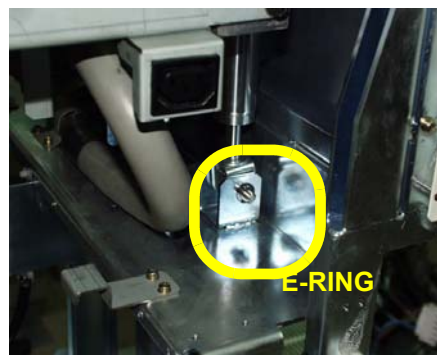

Figure 8-83 Remove E-Ring
- 5.) Using E-ring gripper, remove E-ring. Refer to section Figure 8-83 on page 62.